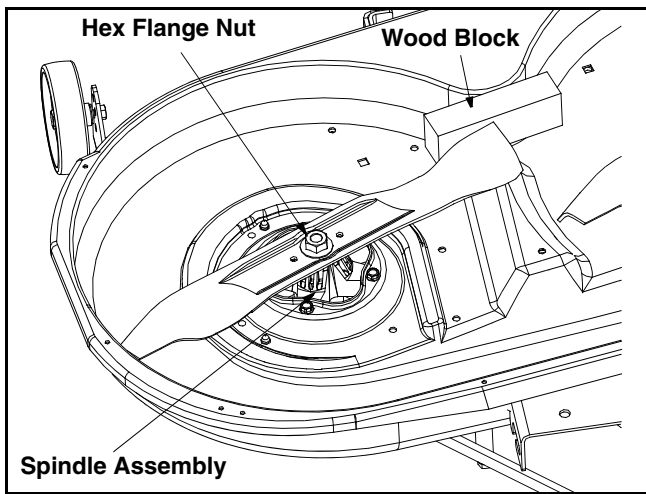

Figure 20
- Place a block of wood between the center deck housing baffle and the cutting blade to act as a stabilizer. See Figure 20 .
- Remove the hex flange nut that secures the blade to the spindle assembly. See Figure 20.